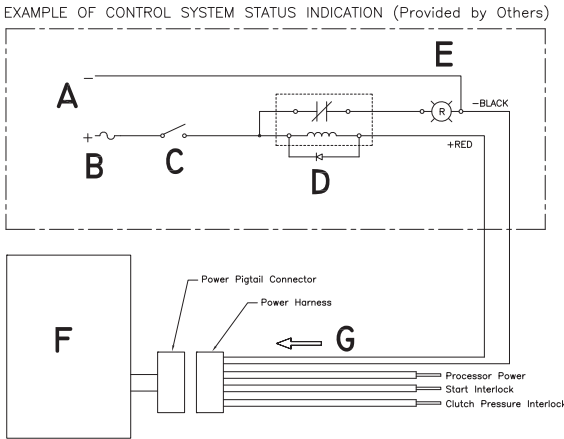
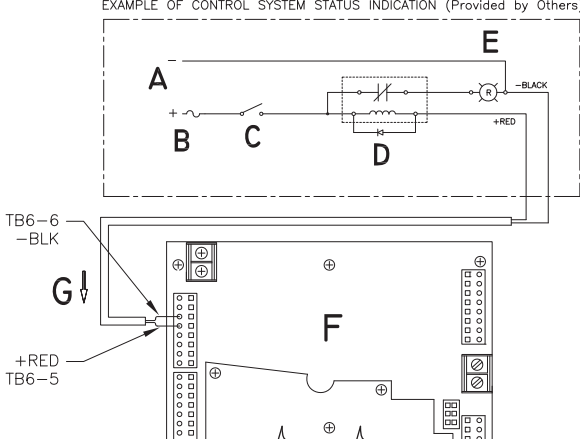

Figure 8-1: External Alarm Harness Example
Figure 8-2: External Alarm Hard-Wired Example
Table 8-1: Key for Figure 8-1: and Figure 8-2: Designators
- Figure 8-1: External Alarm Harness Example and Figure 8-2: External Alarm Hard-Wired Example are examples of a suitable circuit, but are not necessarily the only acceptable circuit.
- C Connect the black and red conductors to the Status Indication Circuit as shown in Figure 8-1: External Alarm Harness Example and Figure 8-2: External Alarm Hard-Wired Example.